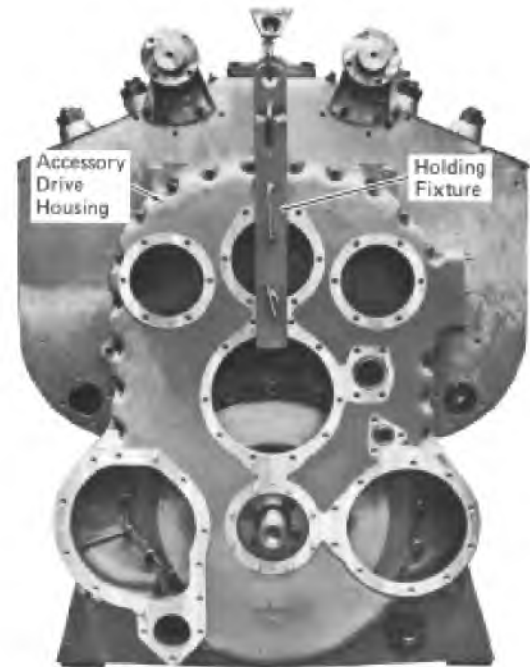

Fig. 6-10 - Accessory Drive Housing Positioning
3. Using holding fixture (File 758) and a suitable lifting device, position housing to crankcase and secure with one mounting bolt on each side of housing, Fig. 6-10.